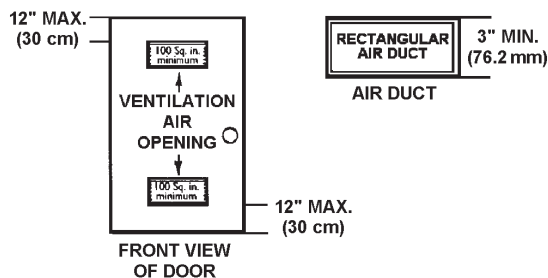

FIGURE 3.
4. Carefully plan the place where you are going to put the water heater. Correct combustion, vent action, and vent pipe installation are very important in preventing death from possible carbon monoxide poisoning and fires, see Figures 3 and 7.